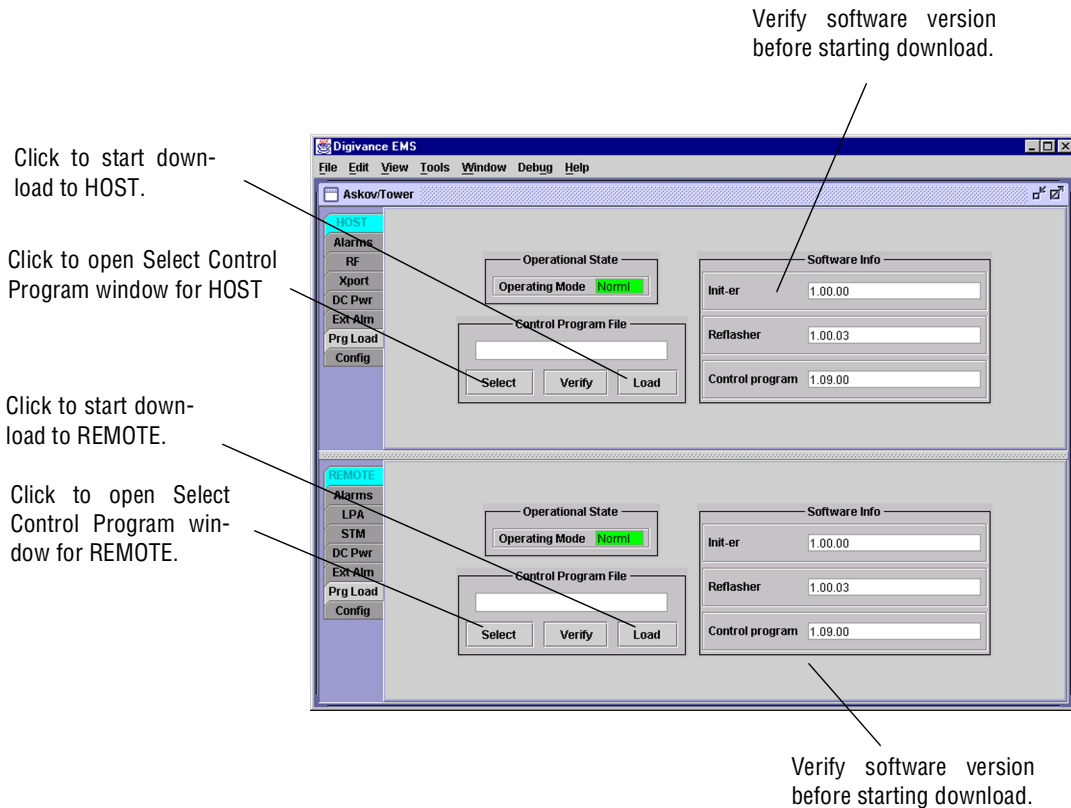

Figure 4-3. HOST and REMOTE Prg Load Displays
1. Click on the **HOST Prg Load** tab and on the **REMOTE Prg Load** tab. The **HOST Prg Load** display and the **Remote Prg Load** display will open within the EMS main window as shown in Figure 4-3.
2. Click on the **HOST Select** button (see Figure 4-3). The **Select Control Program File** window will open as shown in Figure 4-4. Browse until the folder where the Control Program files are located is selected and the software files are displayed in the window.